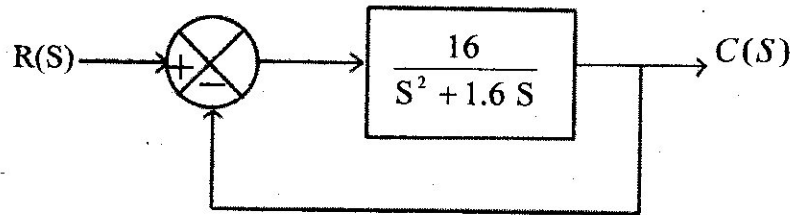

Fig.2(b)
Q.2. (b) A unity feedback control system is shown in Fig 2(b), By using deviative control, the damping ratio is to be made 0.8. Determine the value of T_d and compare the rise time, peak time and maximum overshoot for the system -